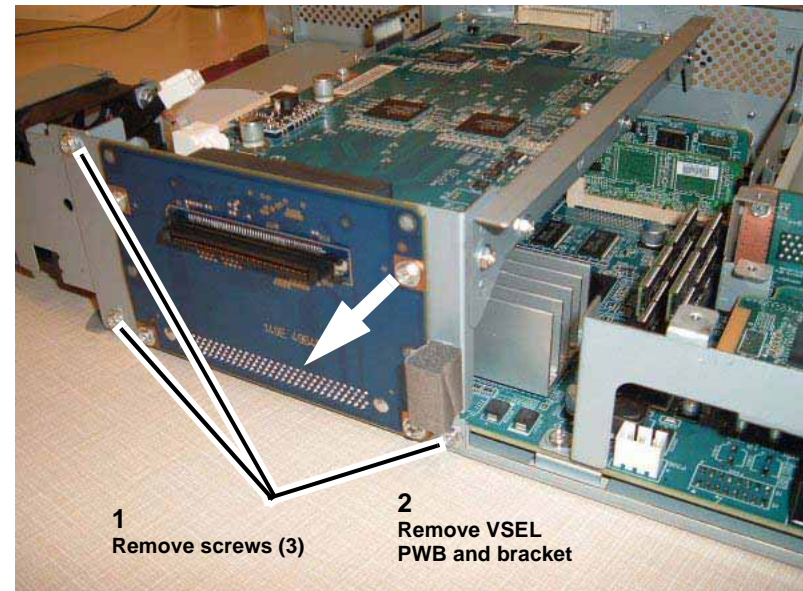

Figure 3 Removing rear screws
4. Remove rear screws (Figure 3).